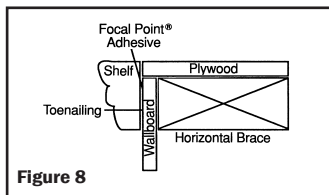

Figure 8
- Make Shelf Bracket from good quality cabinet wood: install as shown (*figure 8*).